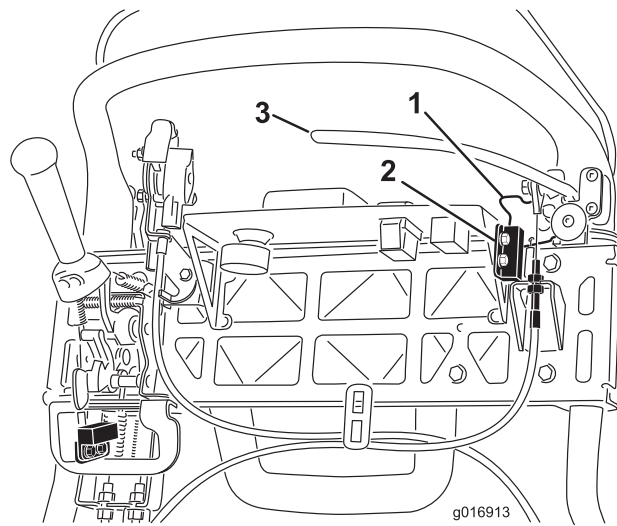

Figure 43
4. Loosen the interlock switch mounting fasteners (Figure 43).
5. Place a 1.6 mm (0.062 inch) thick shim between the parking brake latch and the interlock switch (Figure 43).
4. To increase the cable tension, loosen the upper cable jam nut and tighten the lower cable jam nut (Figure 43) until a force of 156 N (35 lb) applied to the brake lever handle, is required to release the parking brake latch. Do not over adjust or the brake band may drag.